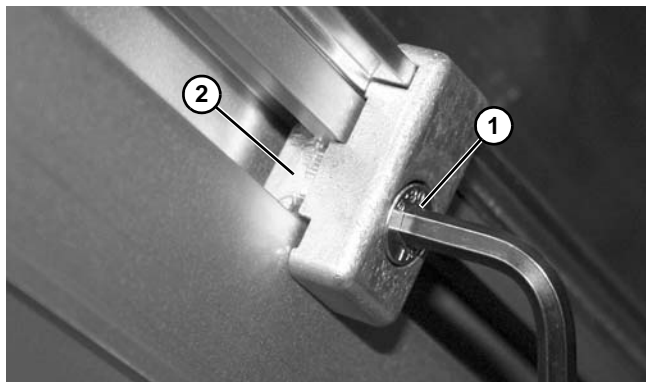

Figure 34
2. Tighten screw (**Figure 34, item 1**) making sure t-bar (**Figure 34, item 2**) rotates and engages inside of t-slot.